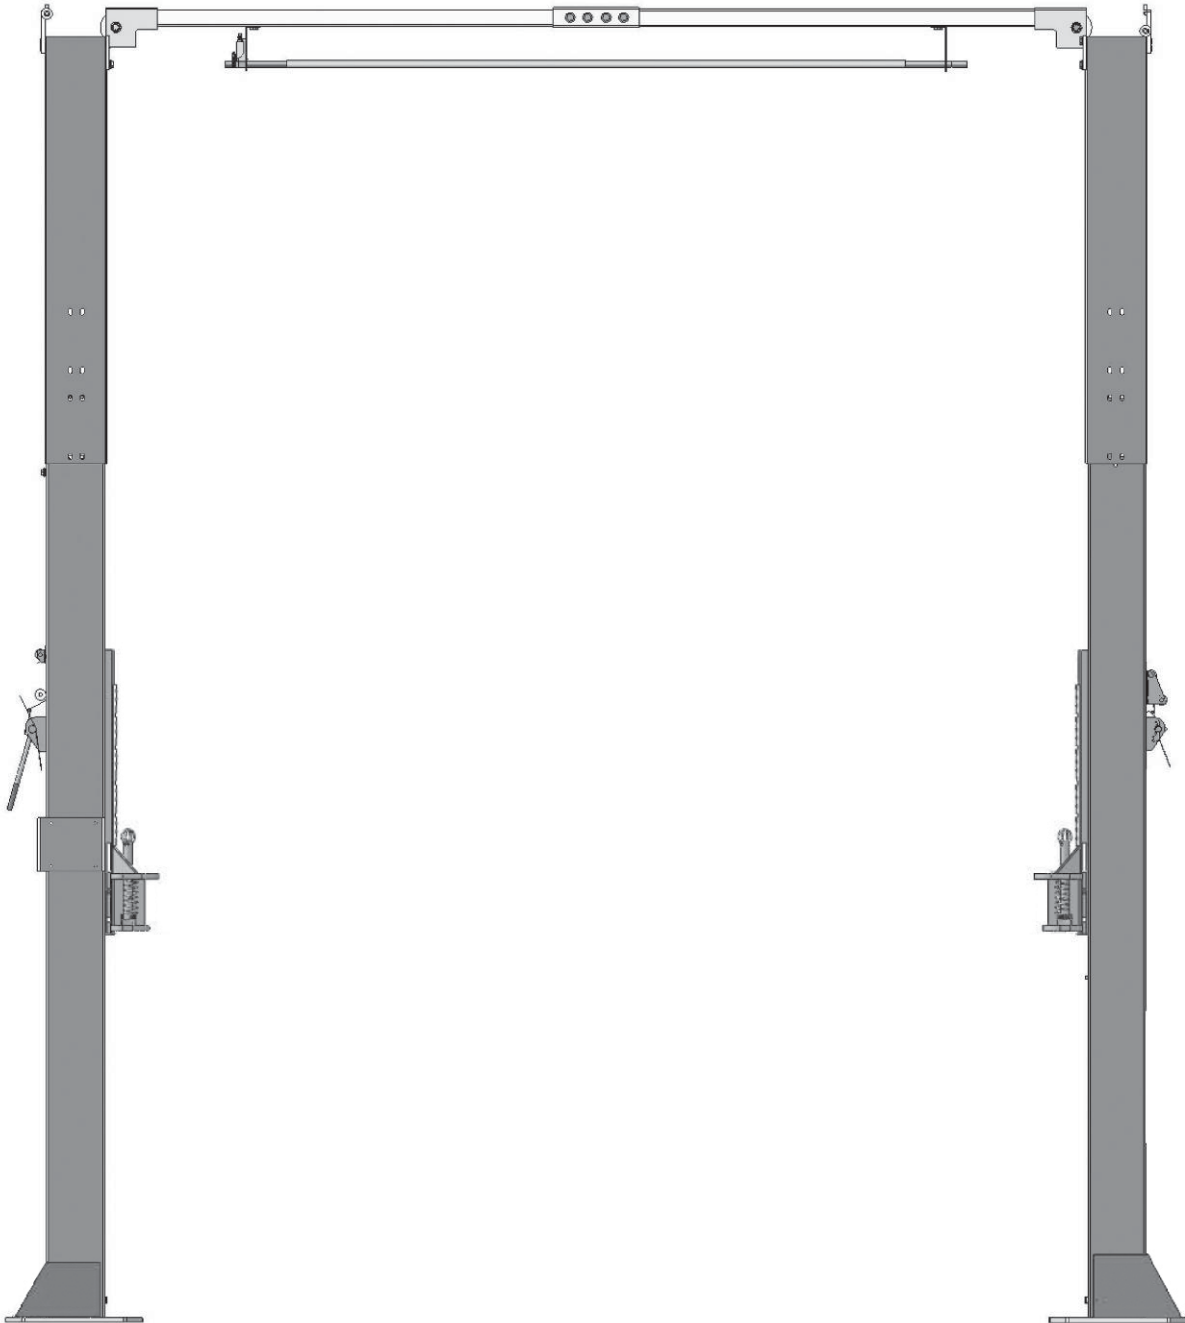

Fig. 20
J. Lift the carriages up about 3 feet by hand and lock them at the same level (See Fig. 20).